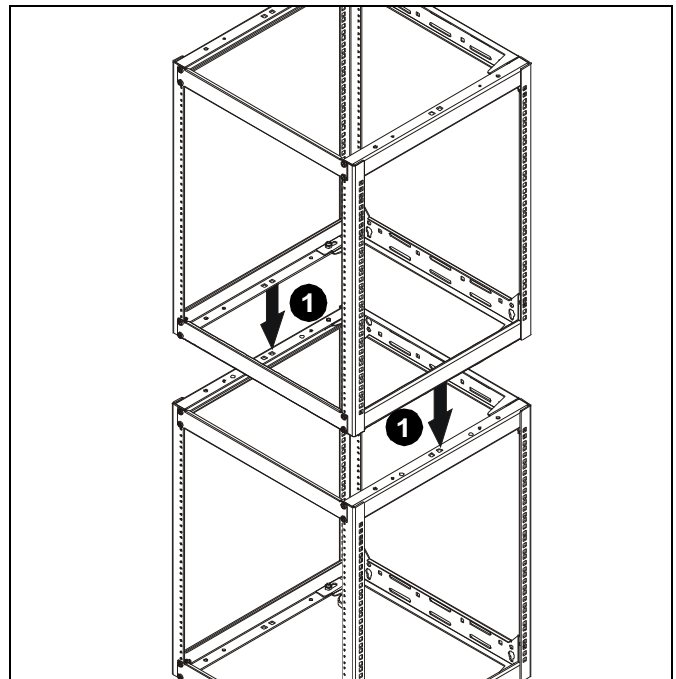

Figure 8
1. Place assembled second rack (without feet) onto first rack. (See Figure 8)